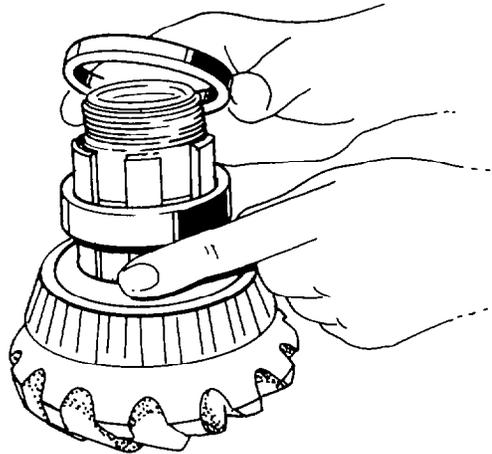

Fig. 283 — Removing Bevel Pinion Spacers
- j. Remove the spacer from the bevel pinion shaft (see fig. 283).